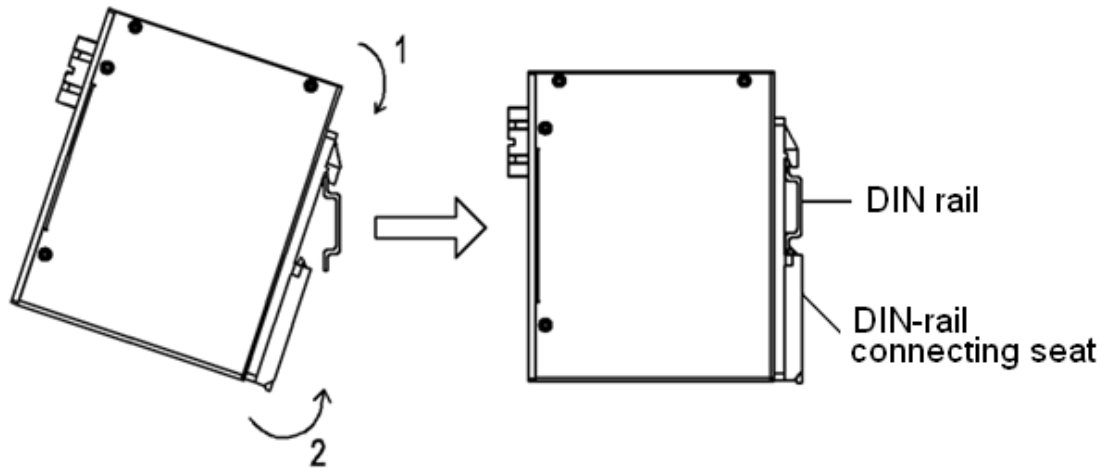

Figure 7 DIN Rail Mounting
Step 2: Insert the upper connecting seat of KOM300A into the top of the DIN rail, and push the bottom of the device inward and upward to ensure the DIN rail fits in the connecting seat, as shown in the left of Figure 7. Make sure that KOM300A is firmly installed on the DIN rail, as shown in the right of Figure 7.